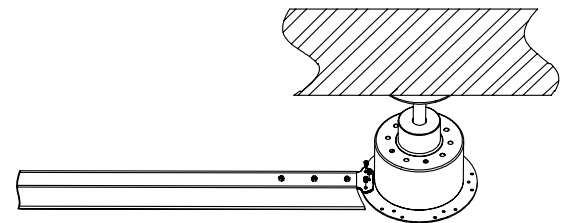

FIGURE 14
B) Attach each blade to the motor body using mounting screws. (See Figure 14)